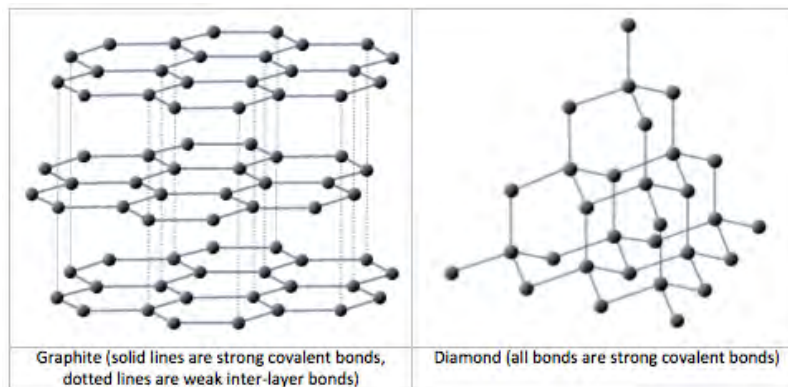

Figure 2.1.1: A depiction of the crystal lattices of graphite and diamond.
As described in the introductory chapter, all minerals are characterized by a specific three-dimensional pattern known as a **lattice** or crystal structure. These structures range from the simple cubic pattern of halite (NaCl) (Figure 14), to the very complex patterns of some silicate minerals. Two minerals may have the same composition, but very different crystal structures and properties. Graphite and diamond, for example, are both composed only of carbon, but while diamond is the hardest substance known, graphite is softer than paper. Their lattice structures are compared in Figure 2.1.1.
bon atoms are linked together in a three-dimensional framework, where each carbon atom is bonded to four other carbon atoms and every bond is a very strong covalent bond. In the mineral graphite, the carbon atoms are linked together in sheets or layers (Figure 2.1.1), and each carbon atom is covalently bonded to three others. Graphite-based compounds, which are strong because of the strong intra-layer covalent bonding, are used in high-end sports equipment such as ultralight racing bicycles. Graphite itself is soft because the bonding between these layers is relatively weak, and it is used in a variety of applications, including lubricants and pencils.
- Figures 2.1.1, 2.1.2 (top and bottom right): © Steven Earle. CC BY.
As we've already discussed, the way that minerals break is determined by their atomic arrangement and specifically by the orientation of weaknesses within the lattice. Graphite and the micas, for example, have cleavage planes parallel to their sheets (Figure 2.1.1), and halite has three cleavage planes parallel to the lattice directions (Figure 2.1.2). Quartz has no cleavage because it has equally strong Si-O bonds in all directions, and feldspar minerals have two cleavages at 90° to each other (Figure 2.3.6). When a mineral has more than one cleavage plane or cleavage direction, it is important to specify the number of cleavage planes and the approximate angle between them.